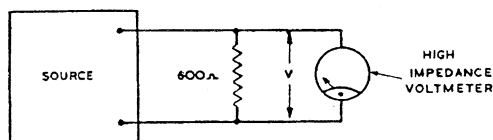

Fig. 4. POWER COMPARISON
16. By comparing the voltages they cause when connected in turn across a standard impedance, the powers of two sources can be compared. A high impedance voltmeter (Fig. 4) is connected across the impedance